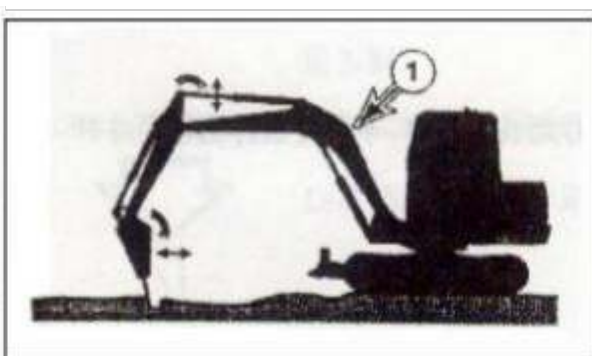

Fig 3-58
5. If the cylinder hose vibrates too violently, do not use the breaker (see Figure 3-58). Check whether the hydraulic accumulator of the breaker is damaged and whether it needs to be repaired. If the excavator works in this situation, the structural components and hydraulic components may be damaged.